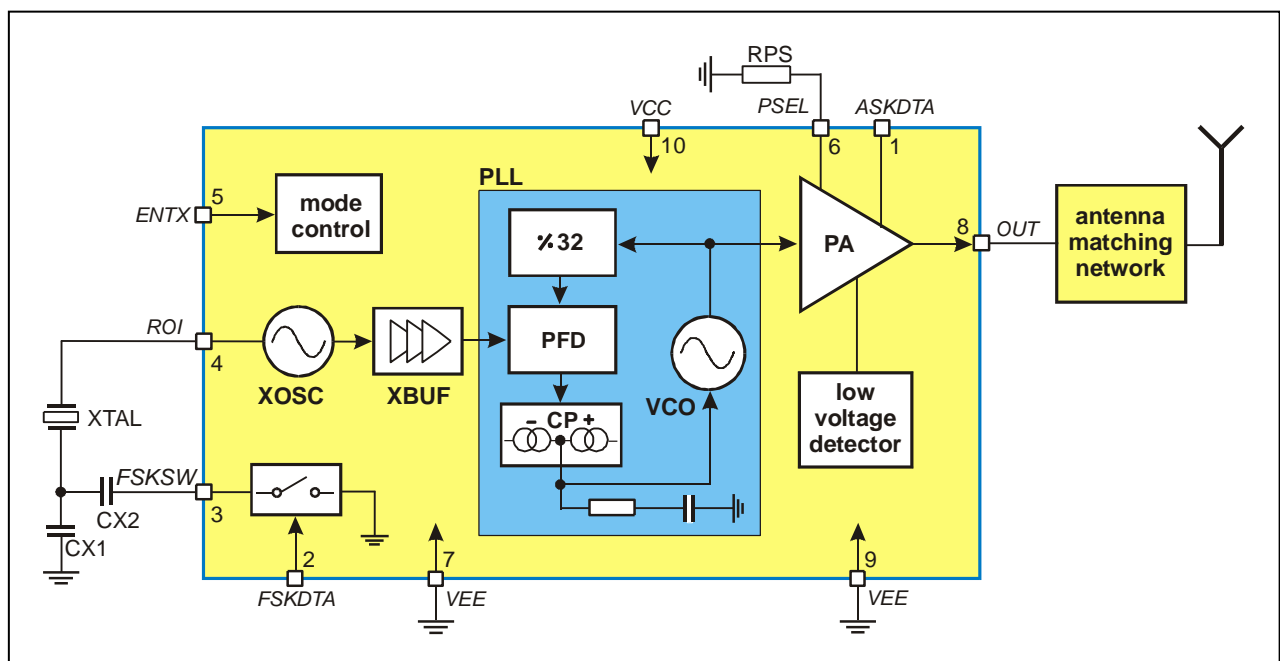

Fig. 1: Block diagram with external components
As depicted in Fig.1, the TH72015 transmitter consists of a fully integrated voltage-controlled oscillator (VCO), a divide-by-32 divider (div32), a phase-frequency detector (PFD) and a charge pump (CP). An internal loop filter determines the dynamic behavior of the PLL and suppresses reference spurious signals. A Colpitts crystal oscillator (XOSC) is used as the reference oscillator of a phase-locked loop (PLL) synthesizer. The VCO's output signal feeds the power amplifier (PA). The RF signal power P_{out} can be adjusted in four steps from $P_{out} = -12$ dBm to +10 dBm, either by changing the value of resistor RPS or by varying the voltage V_{PS} at pin PSEL. The open-collector output (OUT) can be used either to directly drive a loop antenna or to be matched to a 50Ω load. Bandgap biasing ensures stable operation of the IC at a power supply range of 1.95 V to 5.5 V.